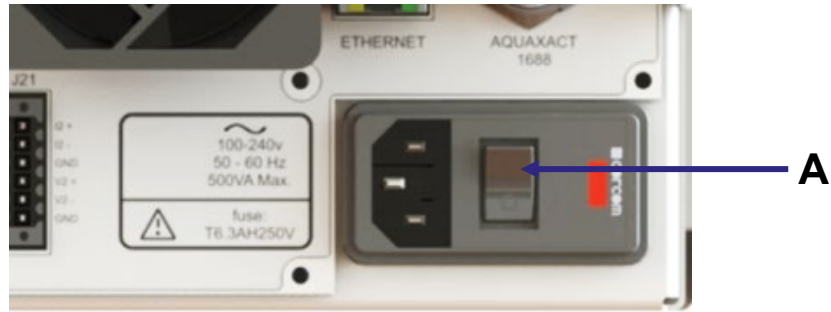

Figure 3-9: On/Off switch on the rear of the analyzer, (A) points to the Power Switch “I” for ON position.
2. Press **I** on the On/Off switch on the rear of the analyser (Figure 3-9 A) to power on the analyser.